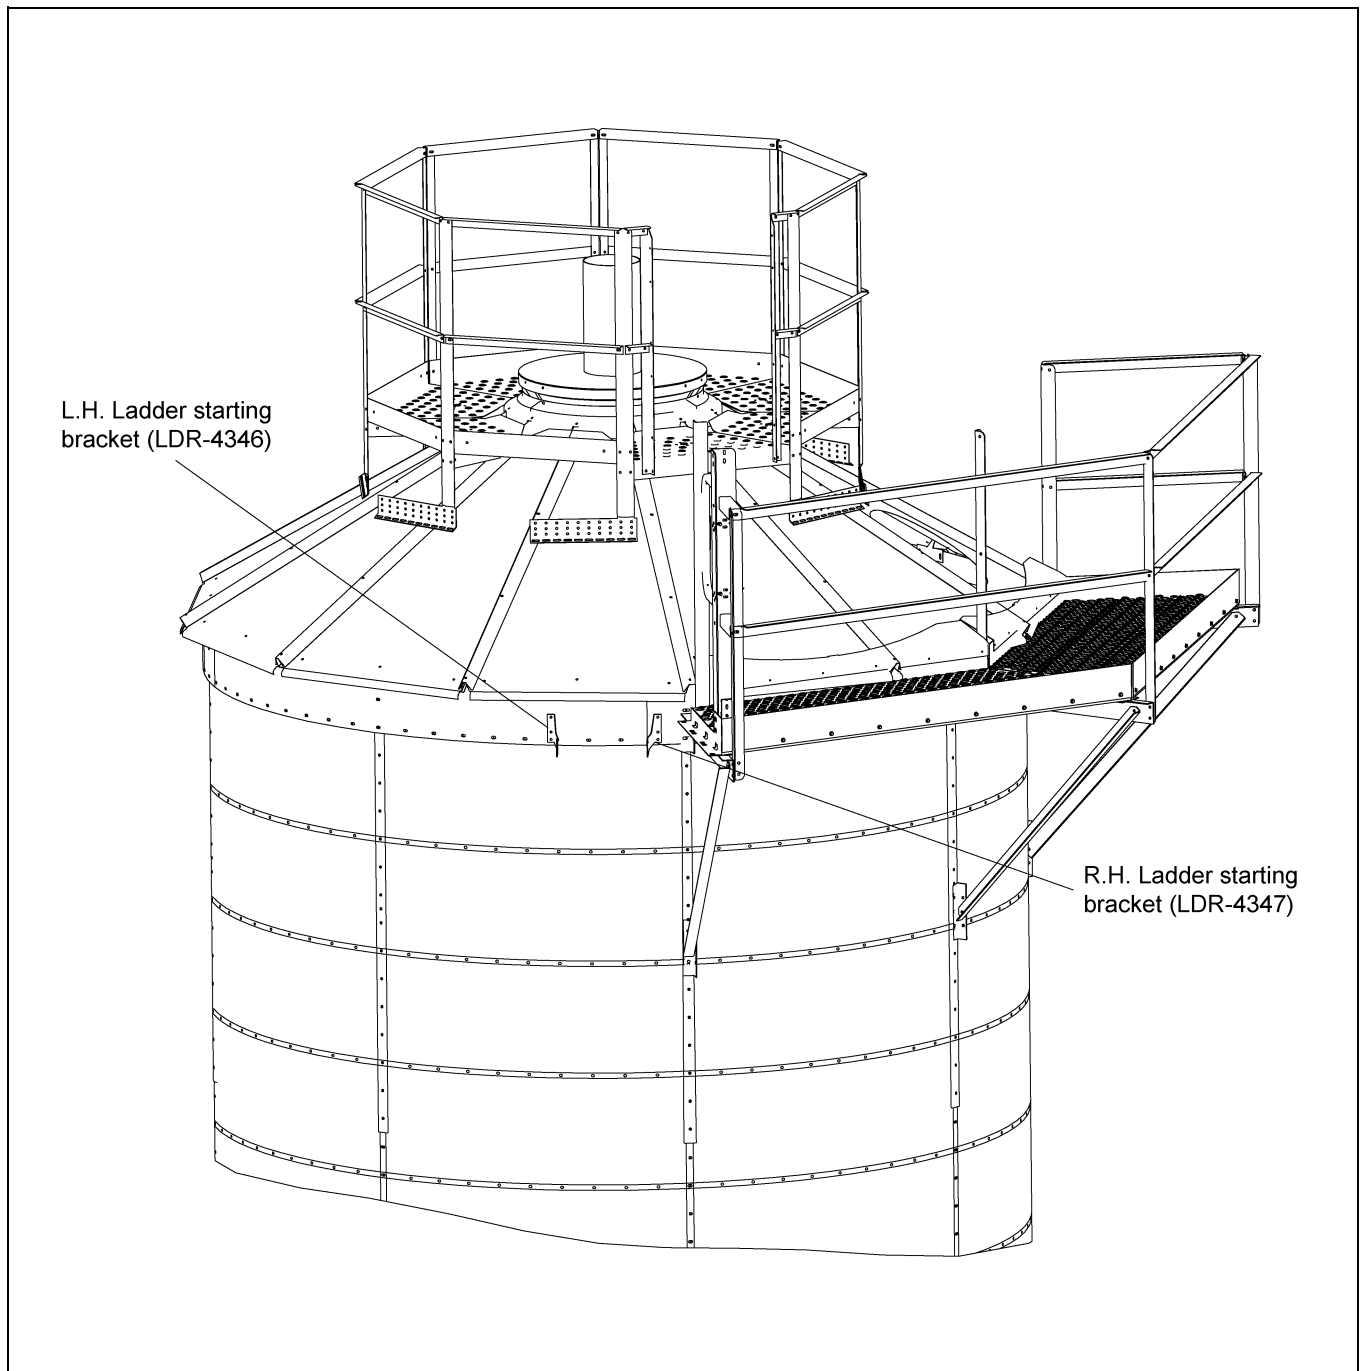
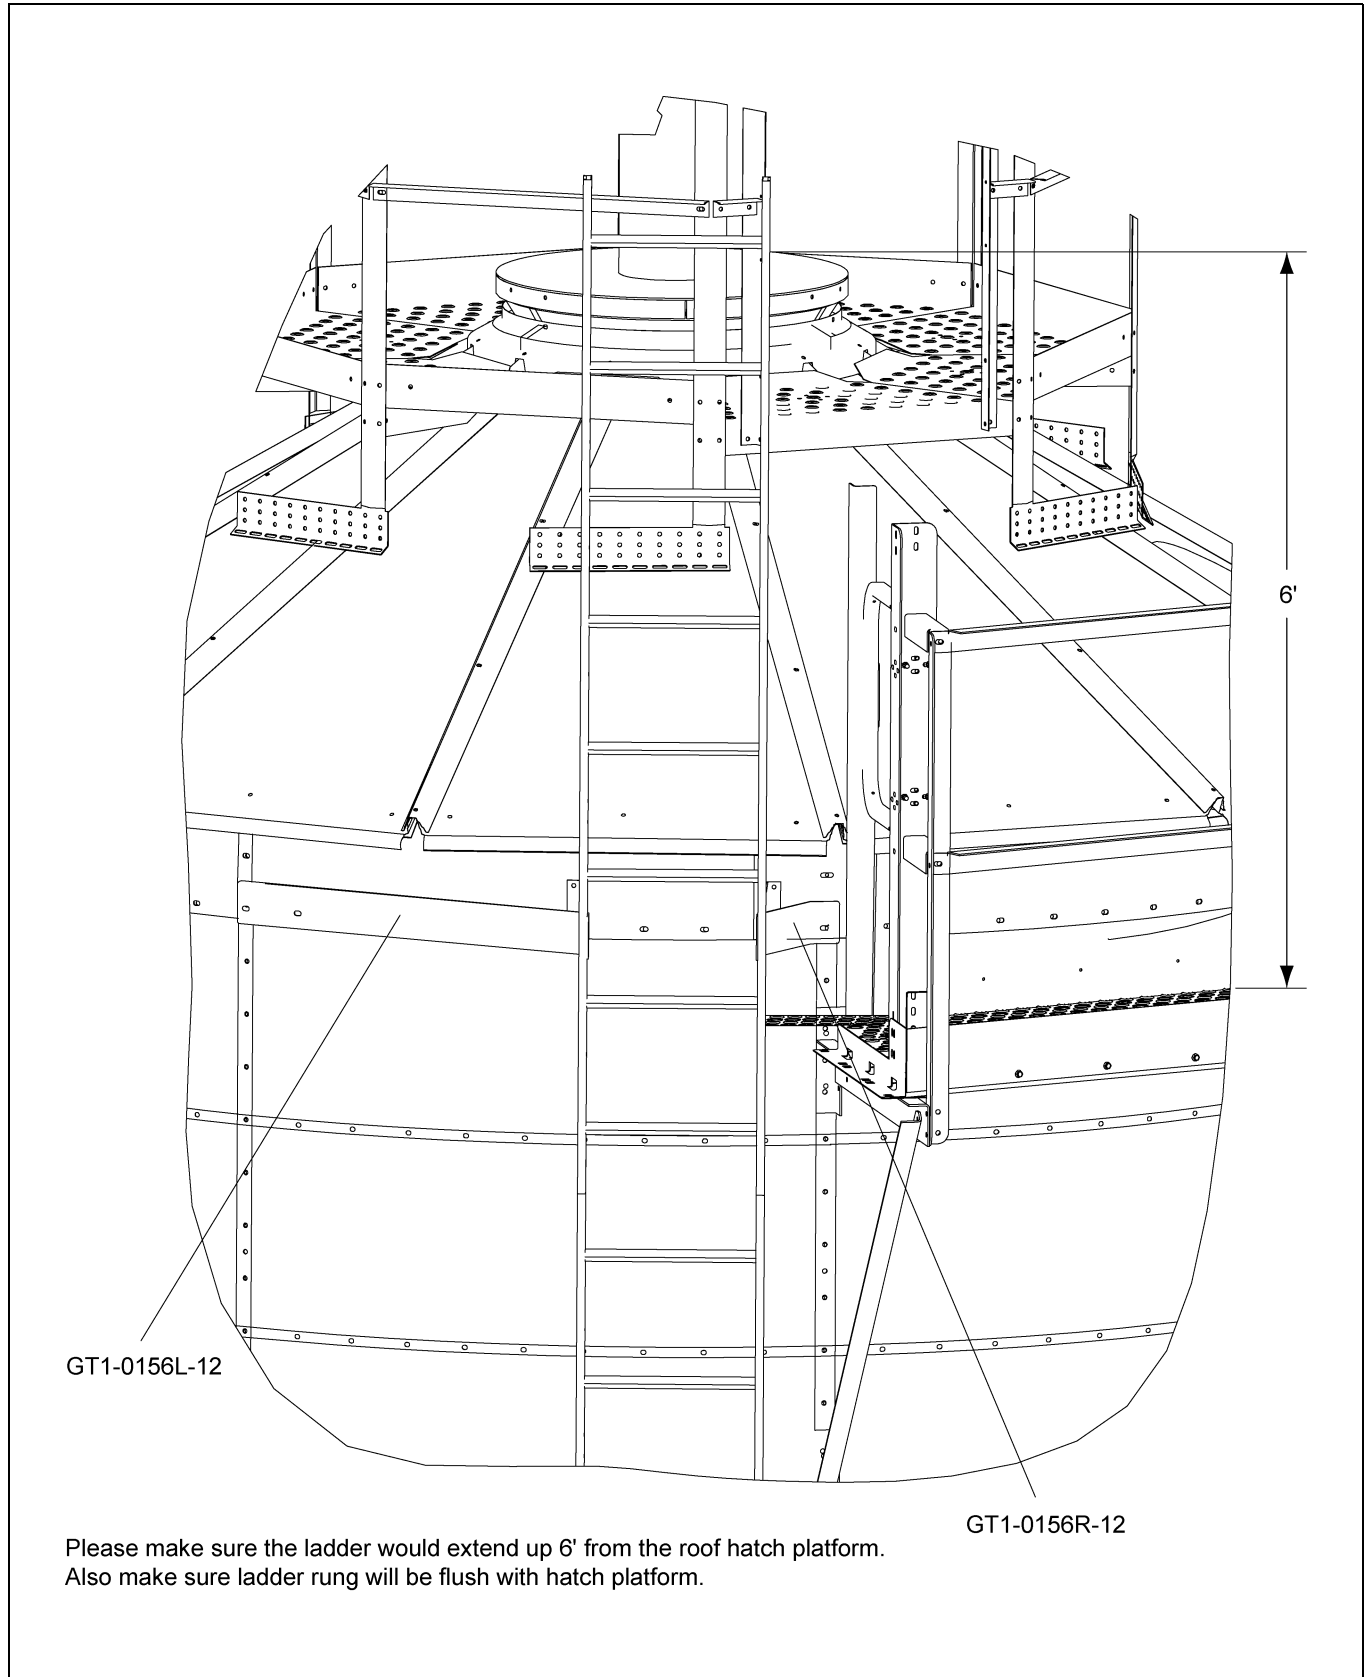

Figure 1F
Figure 1G
1. For the ladder assembly (*Figure 1F*), first assemble the ladder starting brackets (LDR-4346 and LDR-4347) at the roof band. Assemble the right hand ladder starting bracket (LDR-4347) at the first set of holes on the left from where two (2) roof bands overlap as shown in *Figure 1F*. Assemble the left hand ladder starting bracket (LDR-4346) at the set of holes, which are about 17" left of the first set of holes as shown in *Figure 1F*. Attach the ladder stiffeners (GT1-0156L-XX and GT1-0156R-XX) to the vertical channels and assemble the ladder with these brackets as shown in *Figure 1G on Page 9*. Make sure the ladder will extend up 6' from roof hatch platform door. Also, make sure the ladder rung will be aligned with the roof hatch platform door.